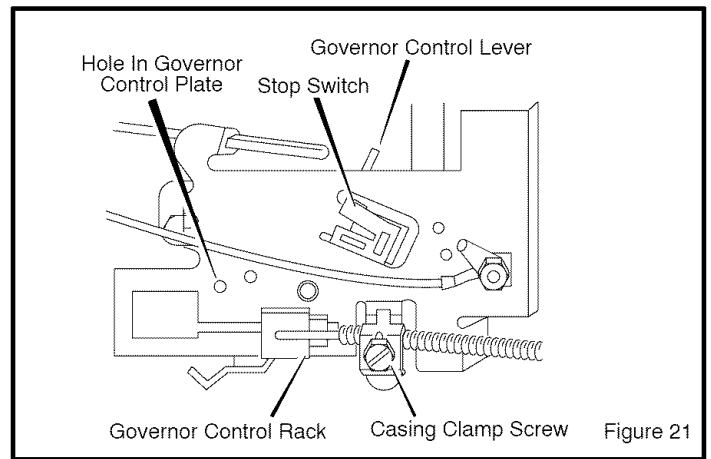

Figure 21
2. The hole in the **governor control lever** (located just behind governor control plate) must align with the **hole in the governor control plate** (see Figure 21).